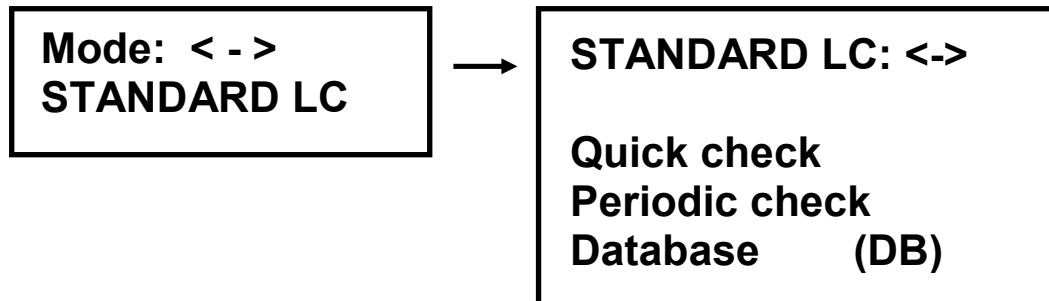

Fig. 2: Positioning the hand-held antenna
- Position the hand-held antenna above the module to be tested and make sure that the LifeCheck® symbol of the antenna and the protection module are in line with each other (see Fig. 2)
As with quick and periodic testing, position the hand-held antenna above the module to be tested. Make sure that the LifeCheck® symbol of the antenna and protection module are in line with each other (see Fig. 2).